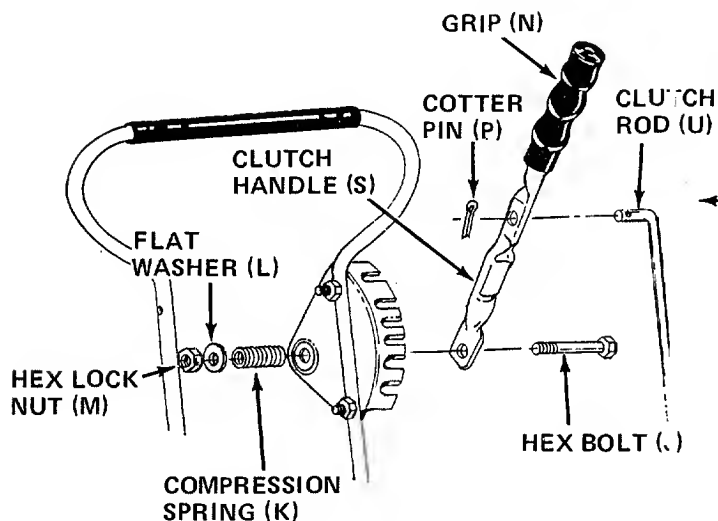

FIGURE 7
8. Place hex bolt (J) through bottom hole in clutch handle as shown in figure 7, then through hole in adjustment bracket.
9. Secure hex bolt with compression spring (K), flat washer (L) and hex lock nut (M) on the inside of the adjustment bracket.
11. Secure bent end of clutch rod to clutch handle with cotter pin (P). See figure 7.
12. Slip the handle grip (N) on the end of the clutch handle. It will slip on more easily if it is first soaked in warm, soapy water.